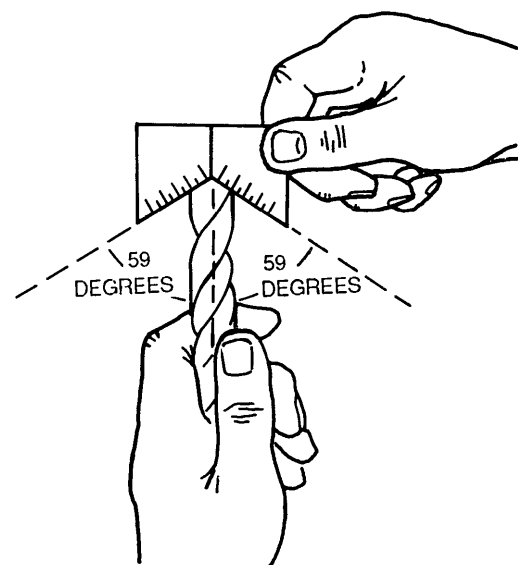

Figure 4-89. Using Drill Grinding Gauge
(3) **Testing angles.** Test the results of grinding with a drill grinding gauge to determine that the cutting edges are the same length and the angles are correct. This is shown in figure 4-89. To determine heel angle, proceed as follows: